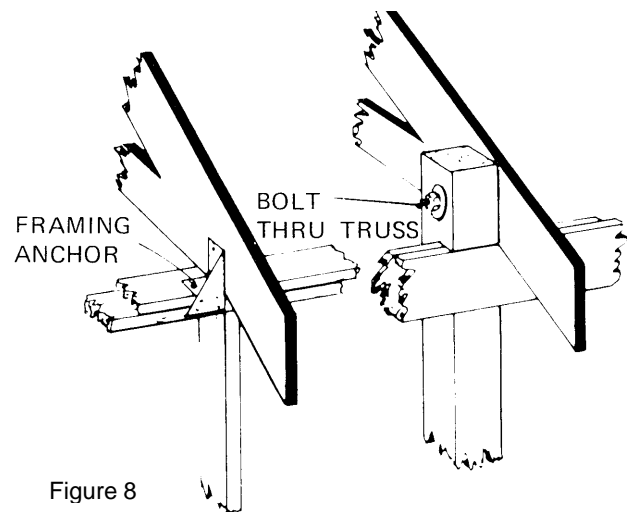

Figure 8
- As each truss is positioned, attach both ends permanently to the top of the wall using metal straps, framing anchors, or bolts (Figure 8). Toenailing the truss to the plate is inadequate. Wind can lift off the entire roof if not properly anchored.